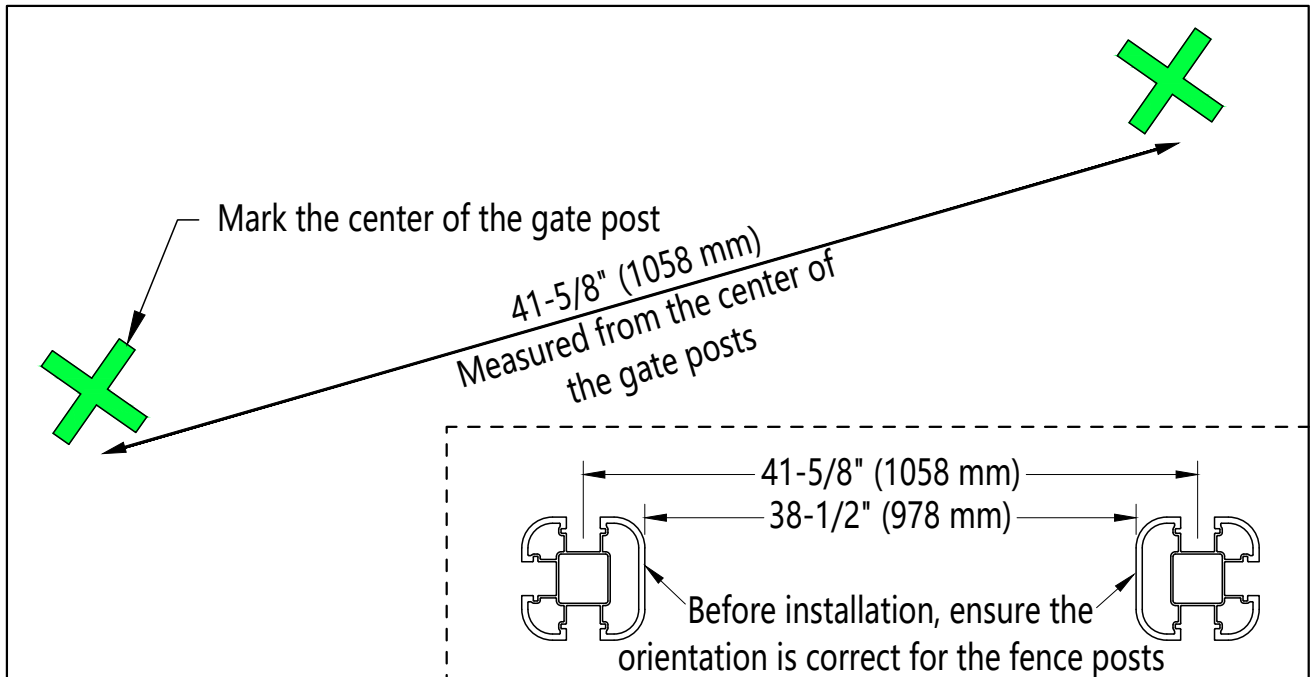

Figure 2
- 2 Measure and position the gate posts on the ground at a distance of 41-5/8" (1058 mm) on center. Draw a positioning mark for the fixed center positions, as shown in Figure 2.